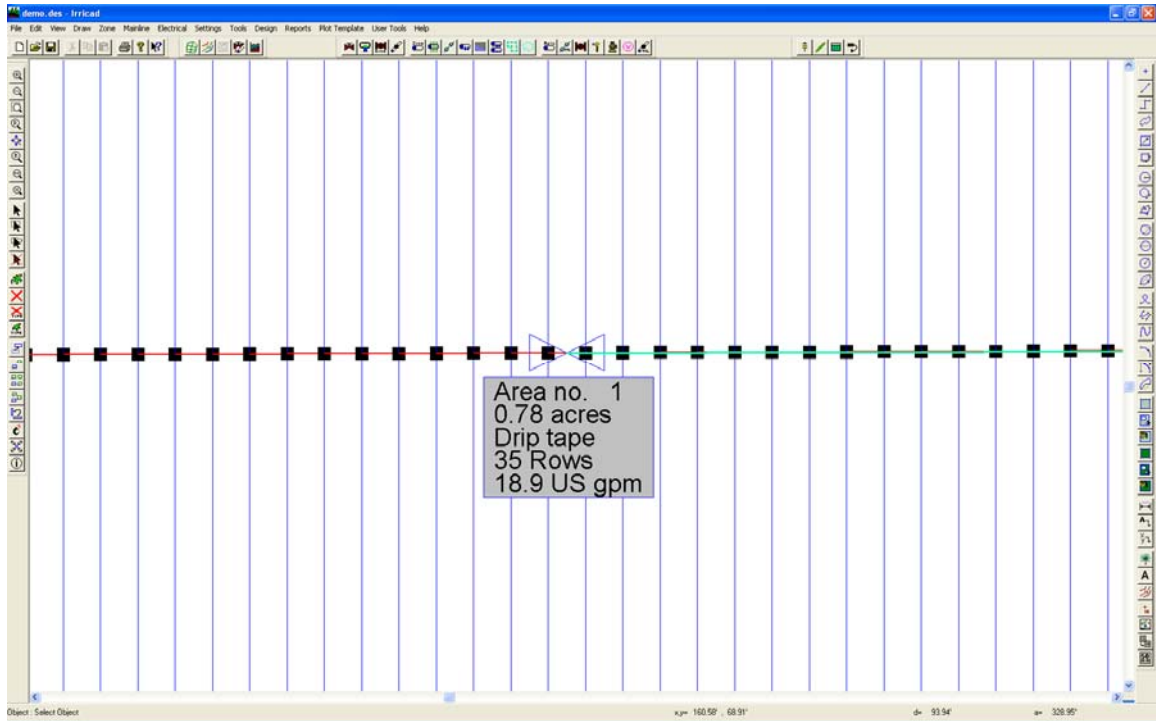

Figure AD 8
20. Now select *Tools/Select Object* and click on the label. Select *Tools/Move* and move the label to below the valve. See Figure AD 8.